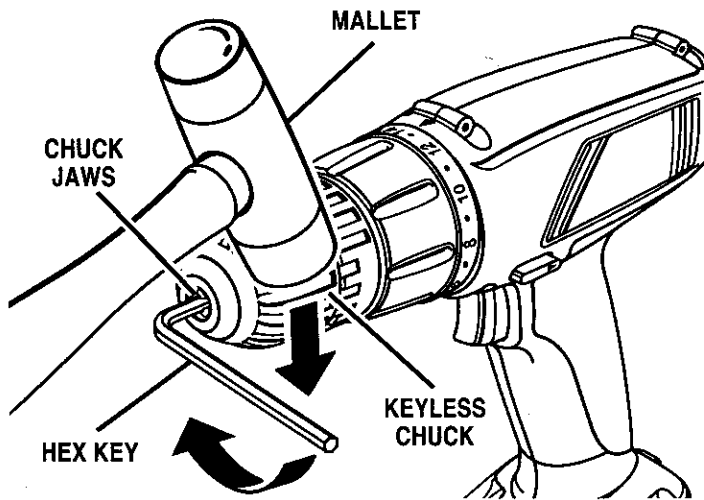

Fig. 11
See Figures 11, 12, and 13.
- Tap the hex key sharply with a mallet in a clockwise direction. See Figure 11. This will loosen the screw in the chuck for easy removal.